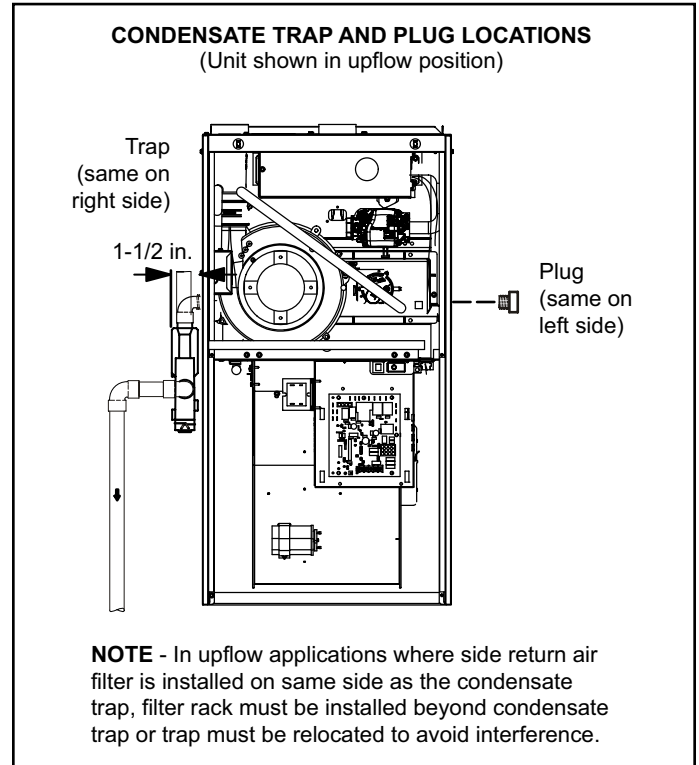
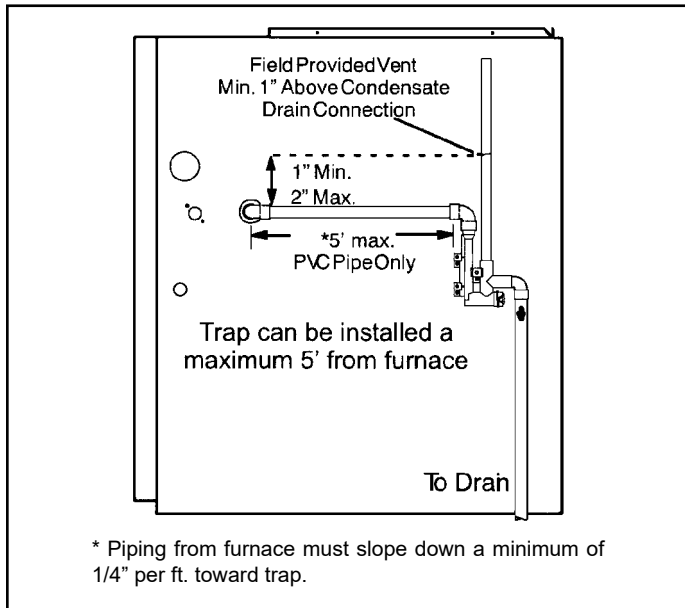
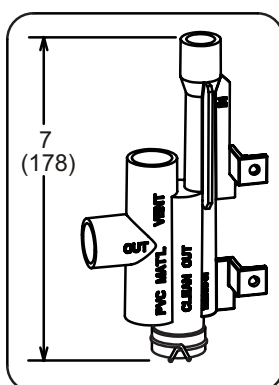

Figure 43.
Figure 45. Condensate Trap Locations (Unit shown in upflow position with remote trap)
Figure 52. TRAP / DRAIN ASSEMBLY USING 1/2" PVC OR 3/4" PVC COLD END HEADER BOX WITH 1/2" DRAIN CONNECTION
This unit is designed for either right- or left-side exit of condensate piping in upflow applications. In horizontal applications, the condensate trap must extend below the unit. An 8" service clearance is required for the condensate trap. Refer to Figure 43 and Figure 45 for condensate trap locations. Figure 51 (3/4" drain connection) and Figure 52 (1/2" drain connection) show trap assembly using 1/2" PVC or 3/4" PVC.
2. For furnaces with a 1/2" drain connection use a 3/8 allen wrench and remove plug (Figure 43) from the cold end header box at the appropriate location on the side of the unit. Install field-provided 1/2 NPT male fitting into cold end header box. For furnaces with a 3/4" drain connection use a large flat head screw driver or a 1/2" drive socket extension and remove plug. Install provided 3/4 NPT street elbow fitting into cold end header box. Use Teflon tape or appropriate pipe dope.
3. Install the cap over the clean out opening at the base of the trap. Secure with clamp. See Figure 51 or Figure 52.
4. Install drain trap using appropriate PVC fittings, glue all joints. Glue the provided drain trap as shown in Figure 51 or Figure 52. Route the condensate line to an open drain. Condensate line must maintain a 1/4" downward slope from the furnace to the drain.